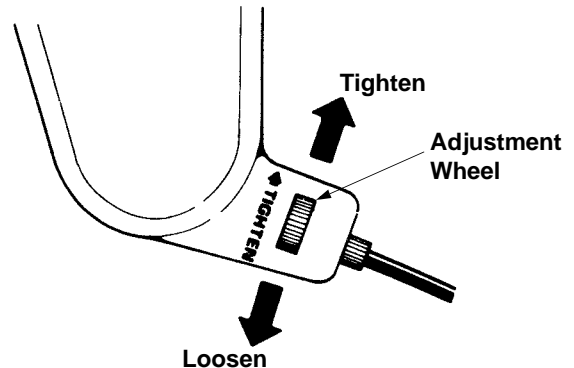

Figure 10
- In addition, the adjustment wheel may also be used to determine the position in which the drive clutch control is engaged. If it is more comfortable to have the drive engaged with the lever further away from the handle, tighten the clutch cable. See Figure 10.